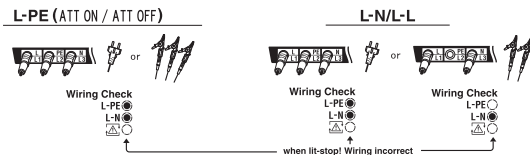

Fig.7-6
- (2) Insert the Test Lead into the instrument. (Fig.7-6)
After the connection, ensure that the symbols for Wiring check on the LCD are in the status indicated in Fig.7-6 before pressing the test switch.
If the status of the symbols for Wiring check differ from Fig.7-6